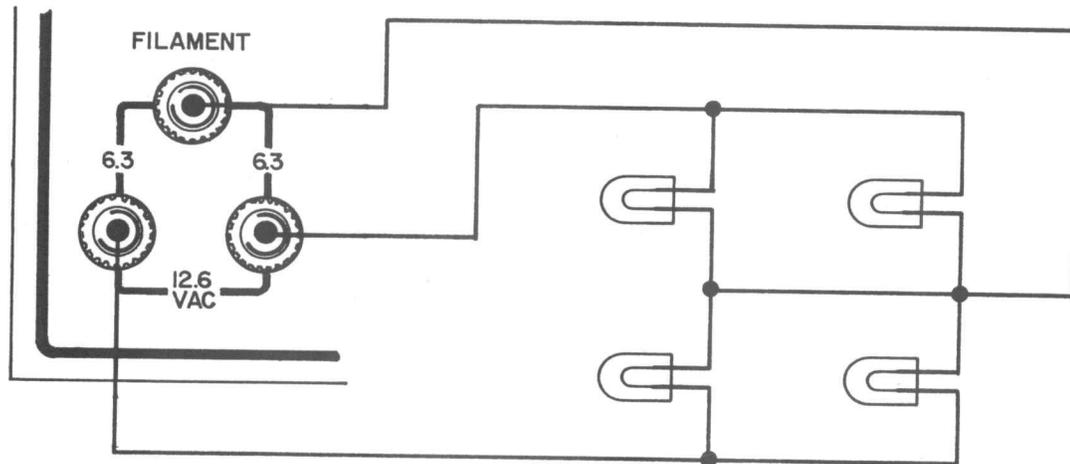

FIGURE 2-3
1. Using Figure 2-3 and the space provided, draw a circuit showing four 6.3 VAC lamps, at 750 mA each, connected to the 6.3 VAC output voltage.
2. Will the circuit breakers hold for the circuit of Figure 2-3? Yes
3. If the current rating of each lamp in the circuit of Figure 2-3 were increased by 300 mA, would the circuit breakers hold? No